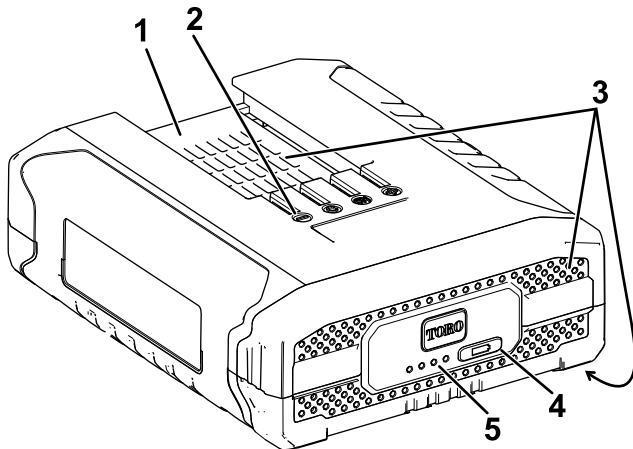

Figure 3
2. Line up the cavity in the battery pack (Figure 3) with the tongue on the charger.